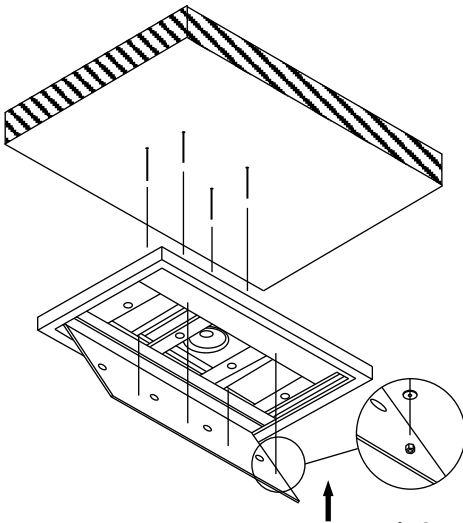

Fig 9
7. Align the fixings to the holes on the hood and tighten bolts to fix the hood to the bulkhead (**Fig 9**).